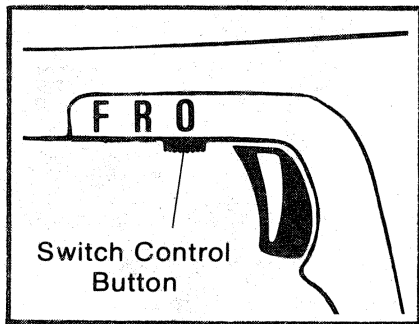

Figure 1
1. Move Switch Control Button to the rear of its slot to lock Trigger Switch "OFF" (see Figure 1) before removing the Power Pack.